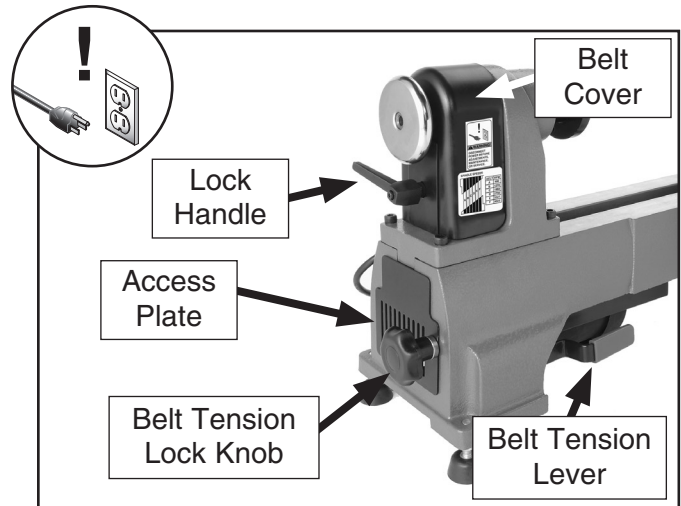

Figure 8. Belt access.
1. Loosen the lock handle, remove the belt cover, and open the access plate (**Figure 8**).